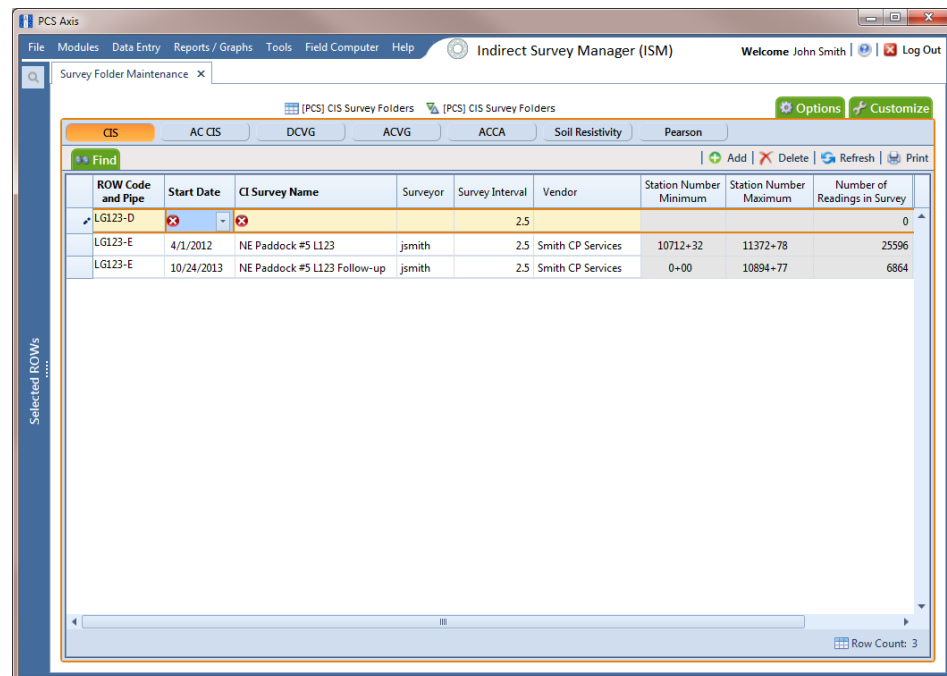

Figure 5-6. Survey Folder Maintenance
PCS Axis adds a row of records in the grid for the new continuous survey folder. The new record includes an error icon  in the fields labeled *Start Date* and *Survey Name* to indicate a required data entry field as shown in the following example (Figure 5-6).
- 4 Click a button labeled with the type of continuous survey folder you want to delete. For example, click the **CIS** button  to delete the survey folder and associated survey readings for a close interval survey (Figure 5-6, page 139).